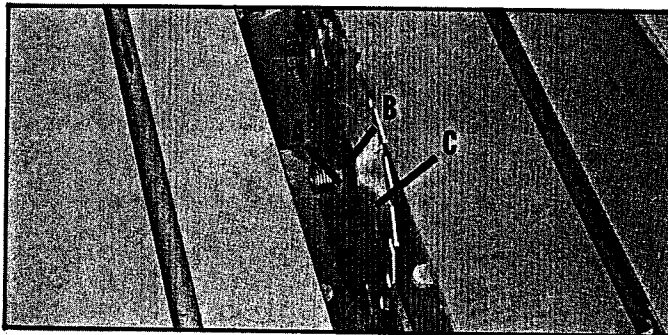

Fig. 8
2. Place saw blade (C) on arbor and reassemble blade flange (B) and arbor nut (A), as shown in Fig. 8. Teeth of saw blade must point down on front edge nearest to scoring blade arbor.